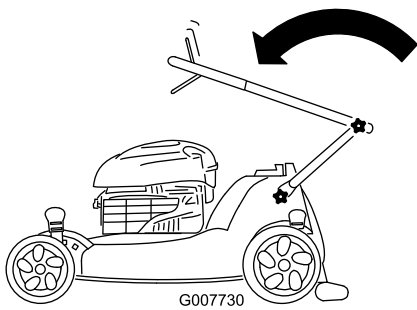

Figure 53
2. Fold the upper handle forward as shown in Figure 53.